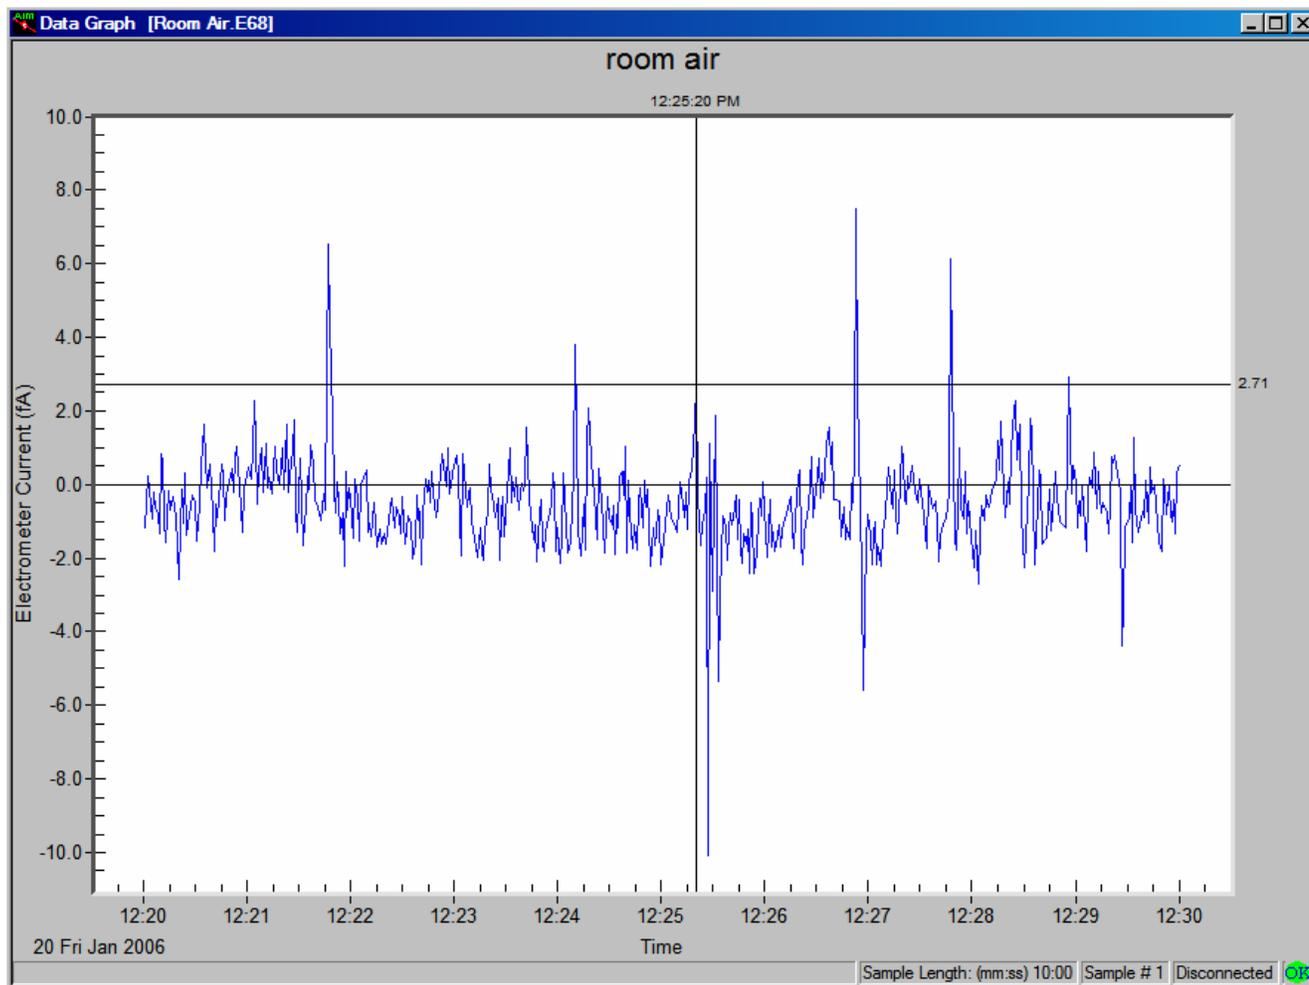

Figure 5-4
2. Press the left mouse button to display the values. Figure 5-4 shows how the data values would be displayed for an aerosol electrometer sensor.